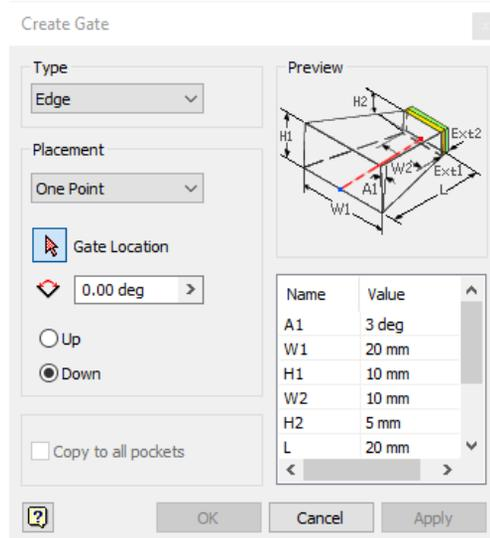

Figure 19-62 The Create Gate dialog box
1. Choose the **Gate** tool from the **Runners and Channels** panel of the **Mold Layout** tab in the **Ribbon**; the **Create Gate** dialog box is displayed, as shown in Figure 19-62.